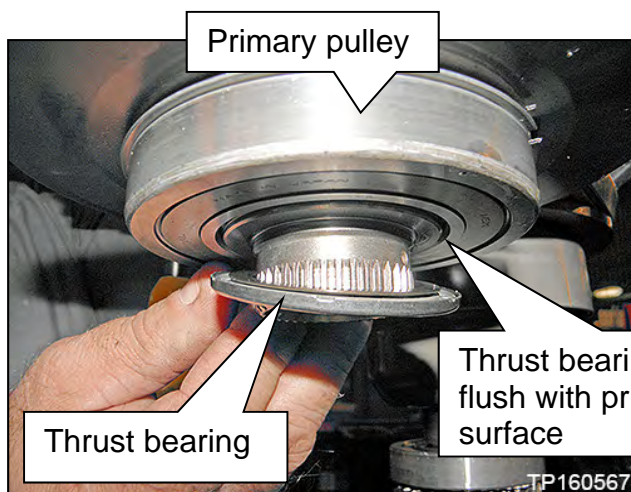

Figure 91
71. Install the original thrust bearing on the primary pulley of the new sub-assembly (Figure 91).